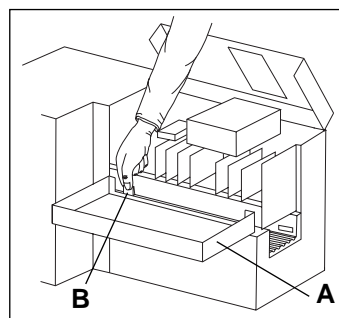

Figure 9.2
2. Lower the keypad face of the instrument (A) to loosen locking knobs inside (B) (Figure 9.2).